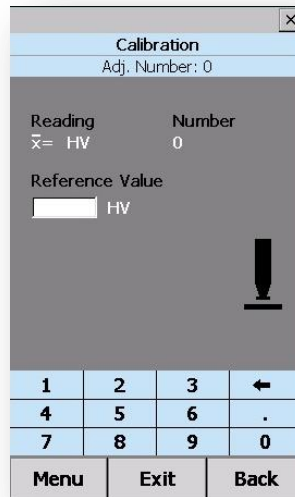

Figure 7.41
- b.) "NO": The determined average value is not used and therefore, (3-5) measurement values must now be recorded within the calibration program (Figure 7.41). Only the average value will be displayed.